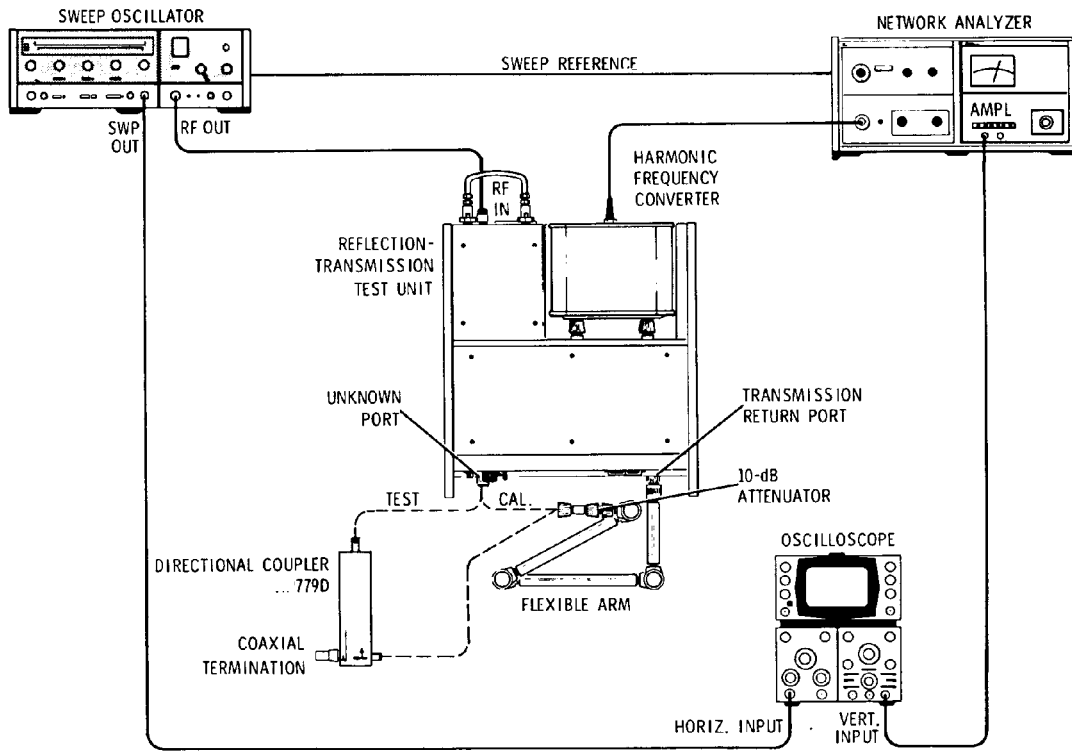

Figure 10 Insertion Loss Test Setup
Description Refer to Figure 10 for Test Setup and Table 6 for Test Equipment. The insertion loss specification includes the loss in the coaxial line plus the coupling loss. A network analyzer is used to measure transmission loss without and with the coupler inserted. The difference is the insertion loss.
1. Connect the equipment as shown in Figure 10.